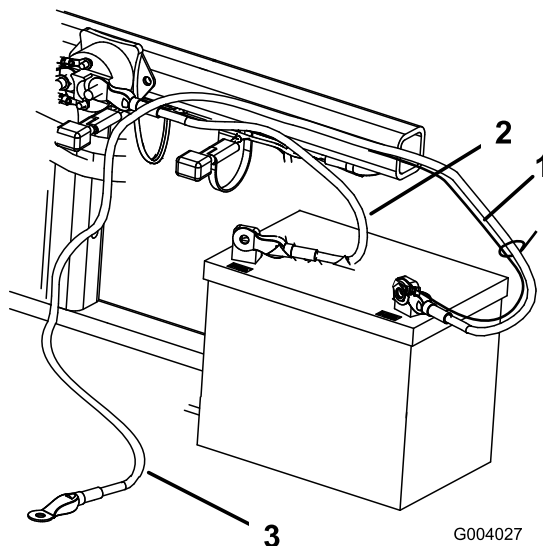

Figure 6
2. Secure the positive cable (red) to the positive (+) terminal with a bolt (1/4 x 5/8 inch) and a locknut (Figure 6).
3. Secure the small black wire and the negative cable (black) to the negative (-) terminal of the battery with a bolt (1/4 x 5/8 inch) and locknut (1/4 inch) (Figure 6).